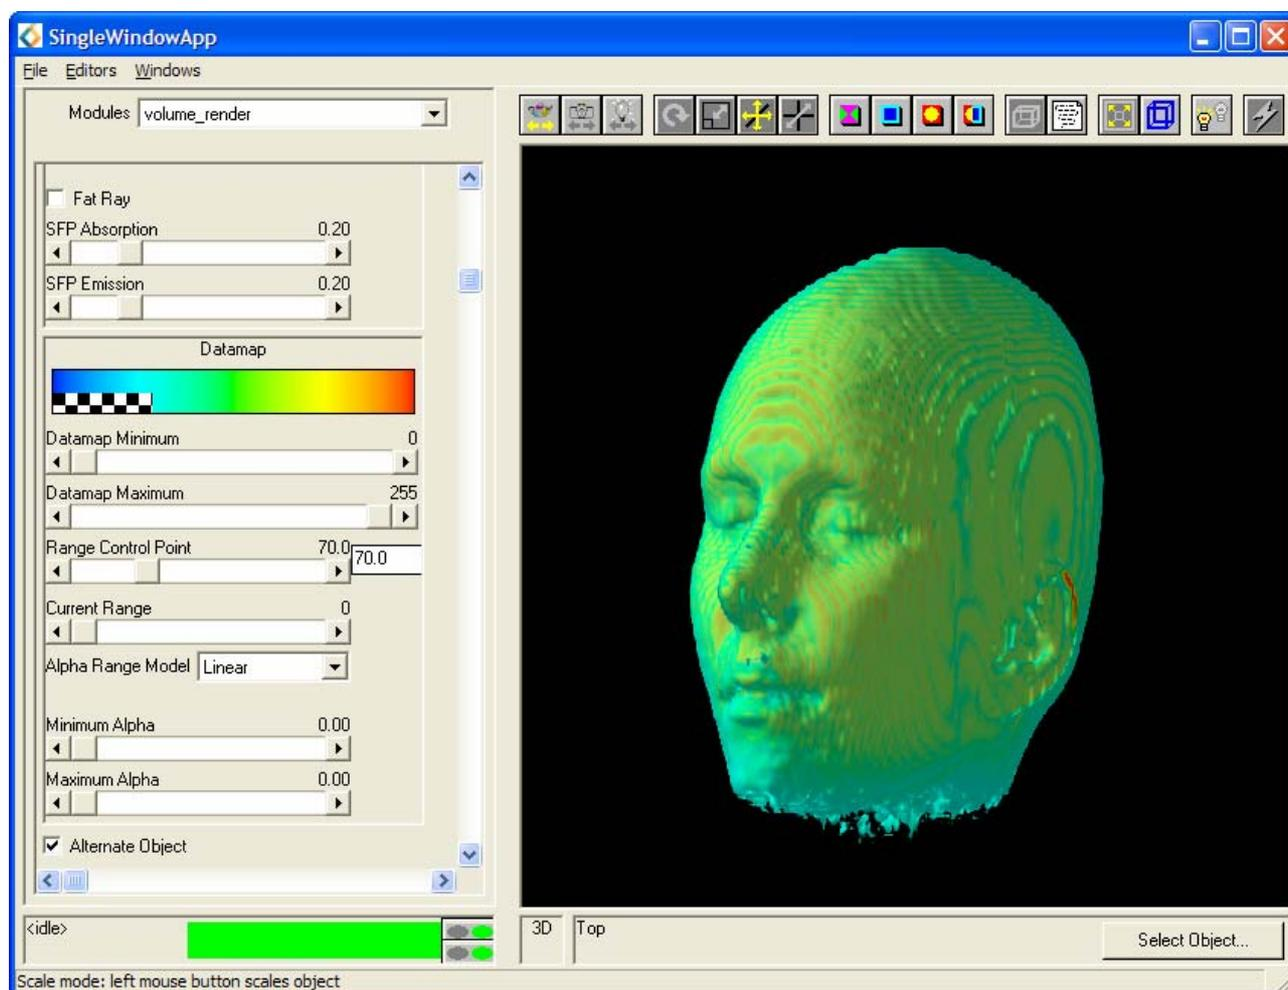

Figure 4.22: volume\_render Editor Panel and Improved Image
- Rotate the head so that it appears similar to the image shown in Figure 4.22.